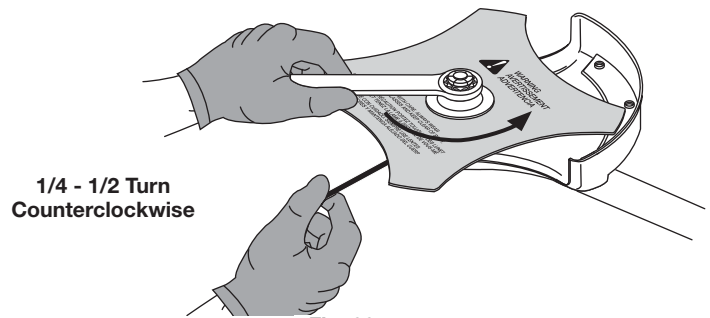

Fig. 22
- Without a torque wrench, use a 13 mm closed-end or socket wrench. Turn the nut until the blade retainer is snug against the shaft bushing. Make sure the blade is installed correctly, then rotate the nut an additional 1/4 to 1/2 turn counterclockwise (Fig. 22).